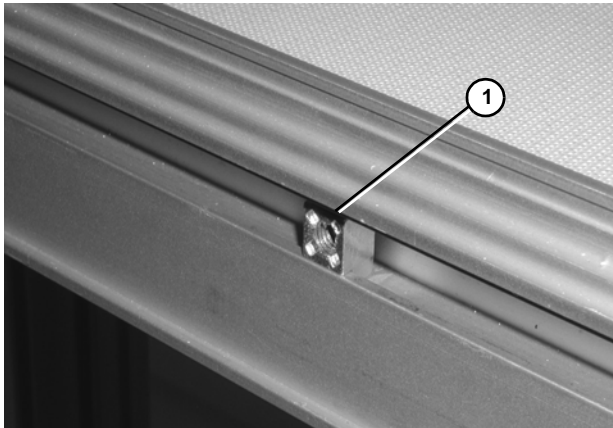

Figure 3
1. Install spring t-nuts (Figure 3, item 1) into conveyor t-slot.